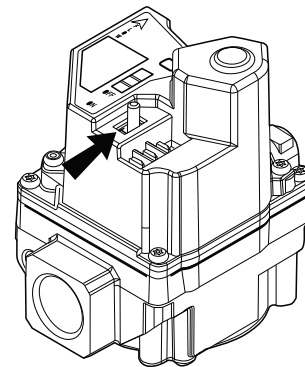

Fig. 17 — Gas Valve Switch - OFF
6. Move the switch on all gas valves to the “OFF” position. See Fig. 17 for example of the valve in the off position
8. Move the switch on all gas valves to the “OFF” position. See Fig. 17 for example the valve in the off position.